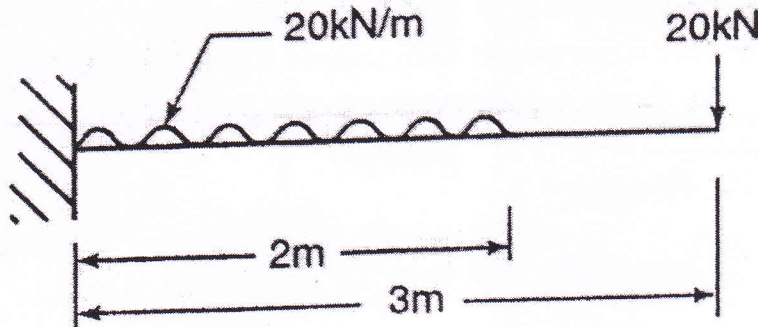

fig. 6a
- a) Determine the maximum deflection for the beam shown in fig 6a, by double integration method. Take  $EI=36000\text{kN-m}^2$  06 L3 CO5